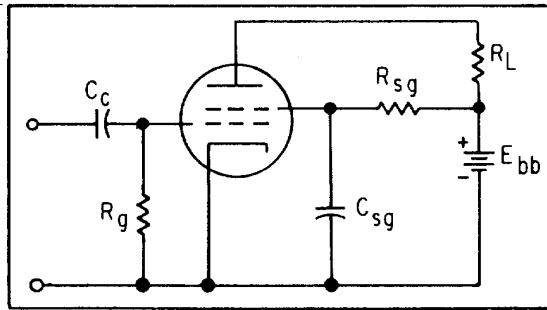

Figure 1C. —Basic tetrode circuit.
- 1-60. What is the function of  $C_{sg}$  in figure 1C above?